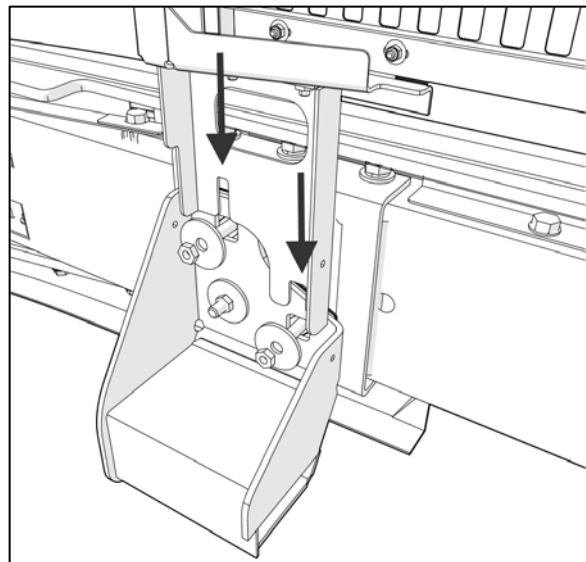

Figure 8
8. Slide down both brackets behind the bumper nuts and flat washers (Figure 8).